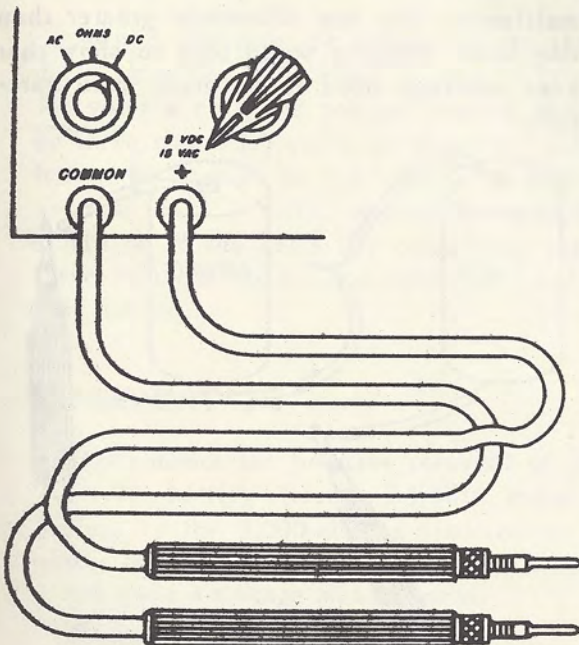

Fig. 7-6
Step 3. Place the phone tip of the black test lead in the black COMMON pin jack and the tip of the red test lead in the red(+, meaning positive) pin jack. If you have performed these three steps correctly, your multimeter and test leads will look like the meter shown in Fig. 7-6.